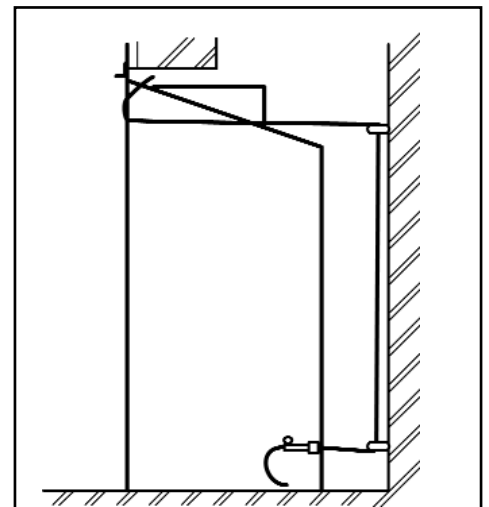

Figure 20. Cable route
6. Thread the cables through the eyebolts. Return the cables through the holes near the bottom of the hotbox back panel (See figure 20) (**For precast or clay block flue systems return the cables through the slotted holes in the side of the hotbox.**)